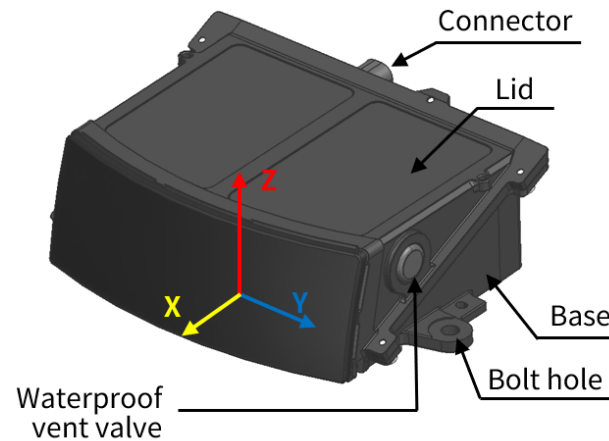

Figure 2. Coordinate system (isometric view)
The lidar's coordinate system is illustrated in Figure 2. Coordinate system \(isometric view\).
- To prevent loss of effective FOV, the mounting tolerances should be within ± 5 mm (position) and within ± 1 deg (angularity) in the directions of X, Y, and Z axes of the vehicle coordinate system (see Figure 2. Coordinate system \(isometric view\)).